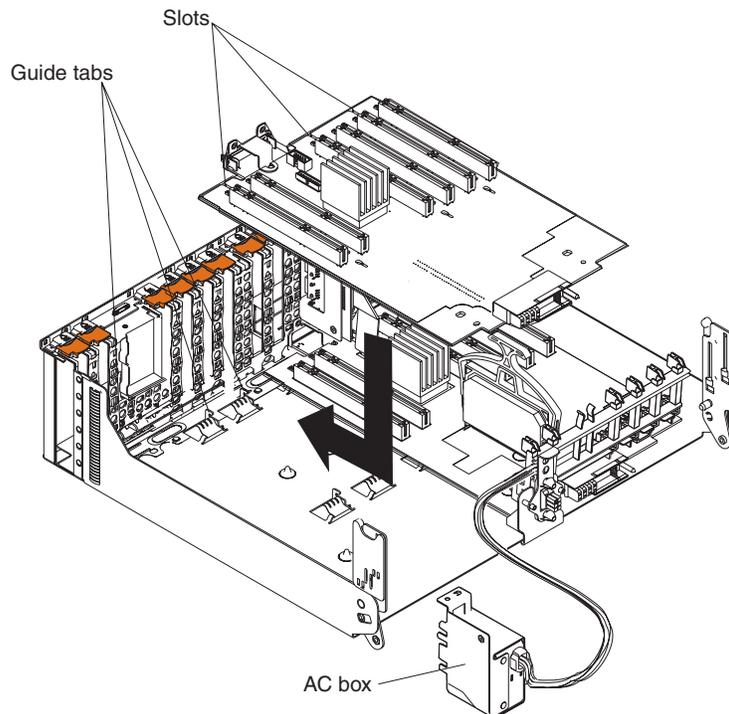

Figure 18. Installing a PCI-X expansion board
6. Using Figure 18 as a reference align the PCI-X expansion board with the guide tabs of the shuttle; then, slide the PCI-X expansion board toward the rear, making sure that the tabs on the enclosure fit into the slots on the rear of the shuttle.